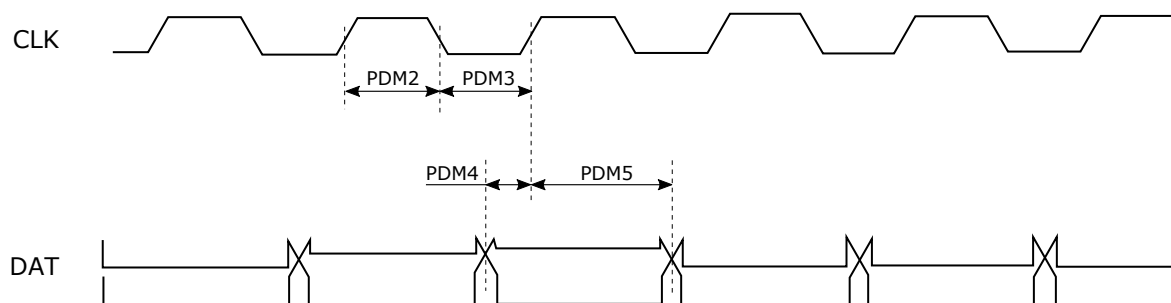

Figure 3-18 PDM Timing Diagram
3.10 and Figure 3-18 present timing characteristics for PDM interface in the device.